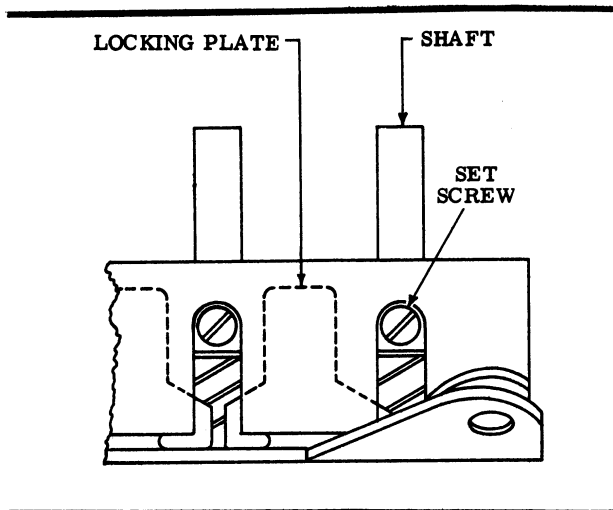

Fig. 3. Push Button Assembly
3.04 The conversion is accomplished by removing the set-screw and locking plate (See Fig.3 for location of parts). Rotate the shaft 180° and replace the set-screw. Tape the removed locking plate to the base of the telephone set, this plate will be required if the push button should be reconverted. Make the necessary wiring changes shown in Table A.